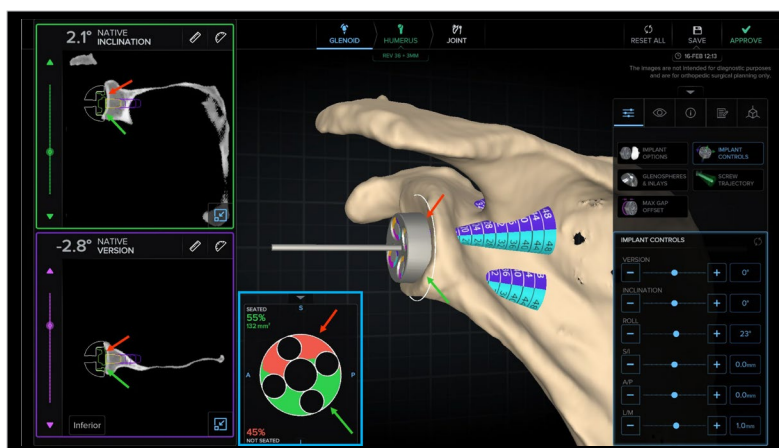

Figure 24. Backside Seating feature
Backside Seating (Figure 24)
- This measurement can be maximized or minimized using the arrow above the Backside Seating Heat Map (shown in blue box in Figure 24).
- This feature shows areas where the backside of the implant is not contacting bone in red (see red arrows in Figure 24) and areas where the backside of the implant is contacting bone in green (see green arrows in Figure 24) in both 2D and 3D views.